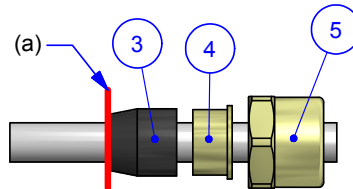
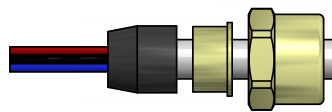

Fig.2
Fig.3
- 2)- Insert the cable into the component 3, 4 and 5 and cut the sheath cable on point (a) (figure 2). See figure 3 as result.